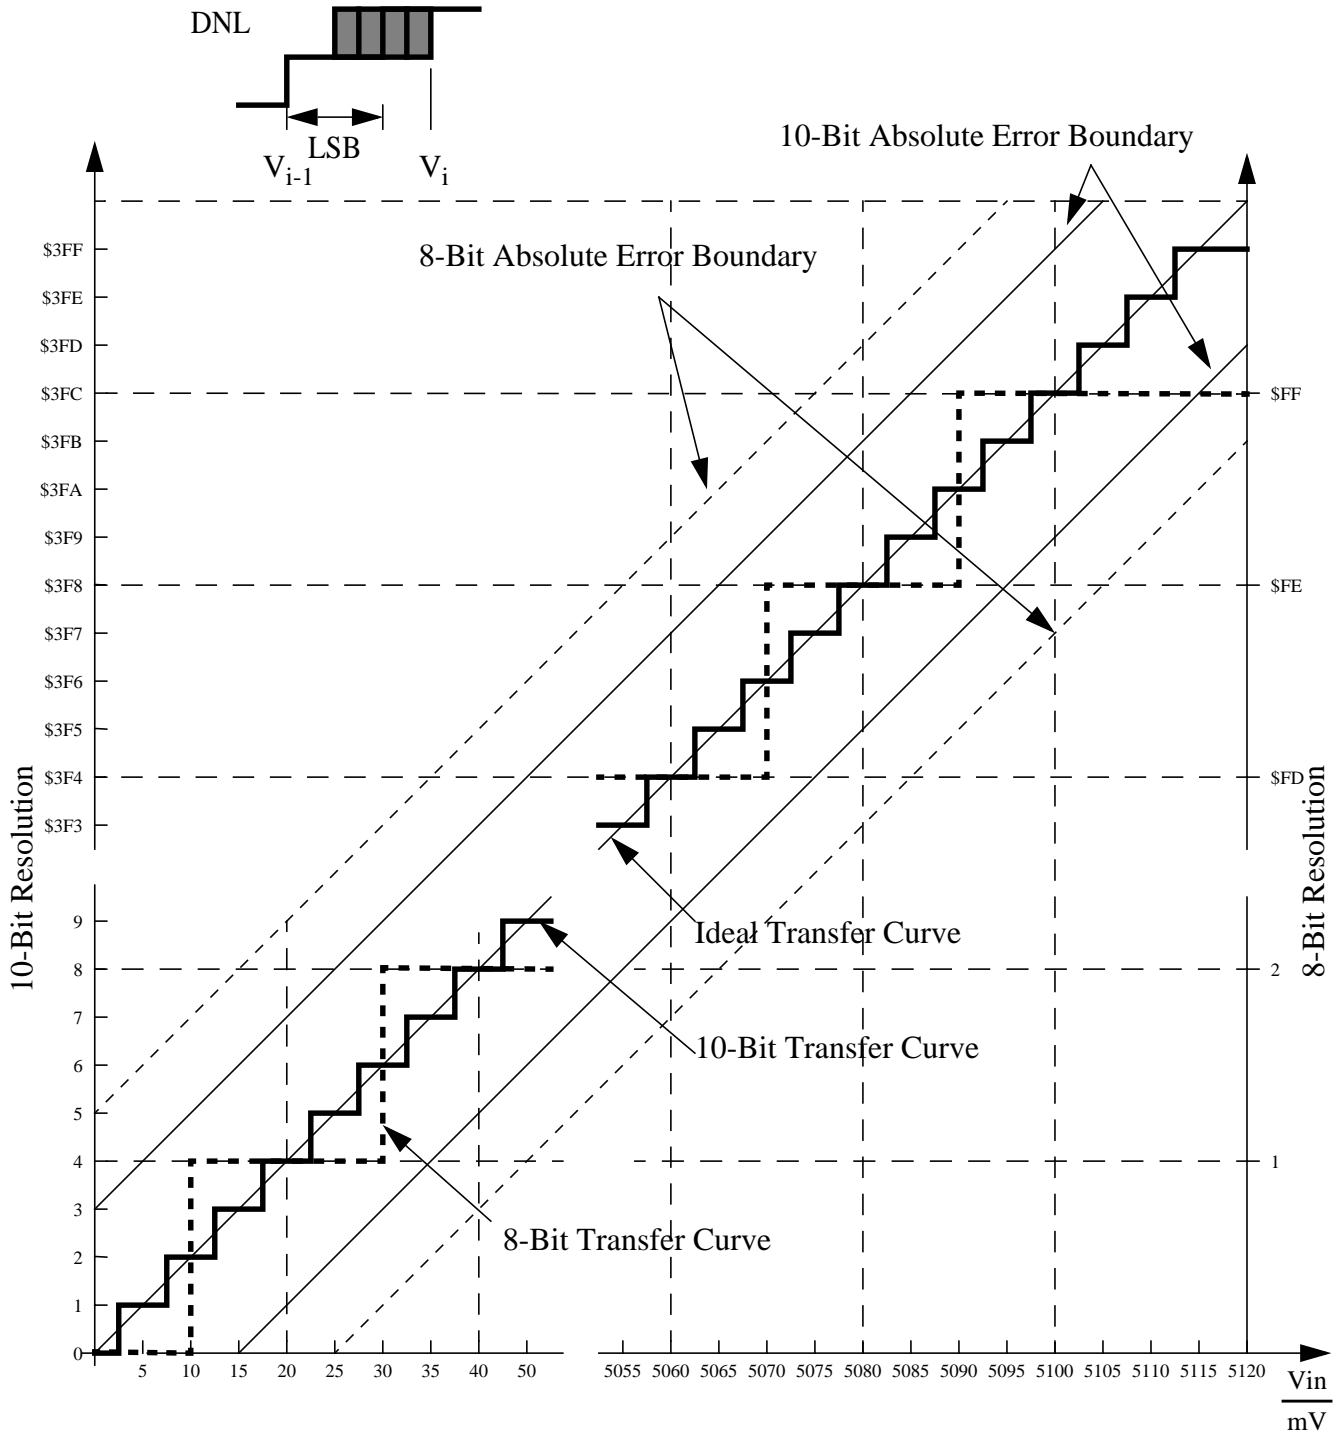

Figure A-1 ATD Accuracy Definitions
For the following definitions see also **Figure A-1**.
NOTE: *Figure A-1 shows only definitions, for specification values refer to **Table A-13**.*
6. Monitors V_{DD} , active only in Full Performance Mode. MCU is monitored by the POR in RPM (see **Figure A-1**)